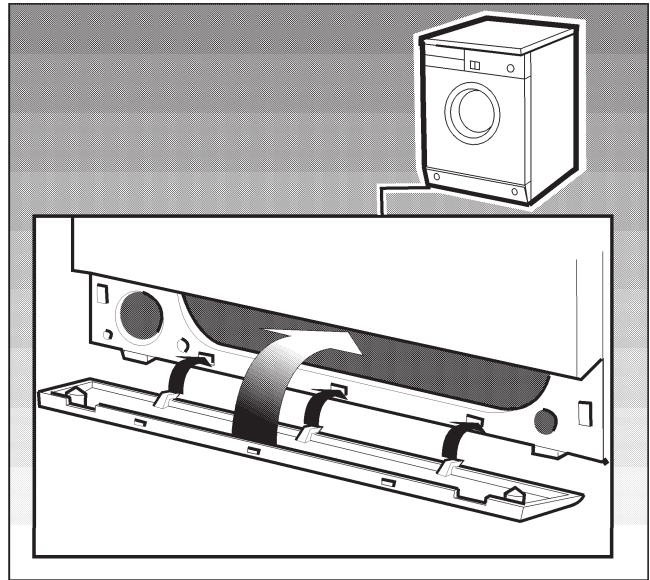

Figure 16.
3. Reattach the kick panel. Be sure to turn the catches so that the slots are vertical. See Figure 16.